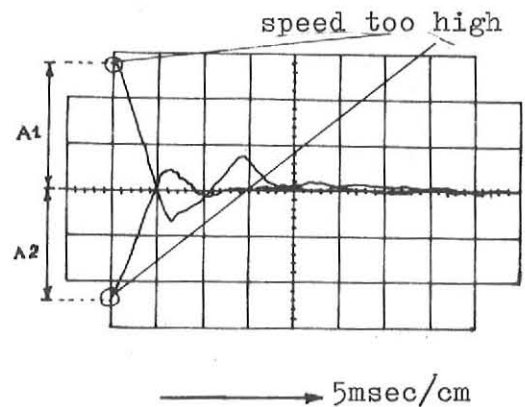

Fig 7-11
- 14) By adjusting VX1 and VX2 in turn, a correct place position loop will be obtained. The slope will be adjusted by turning VX2 to the left means steeper, and to the right means shallower. By VX1 the overshoot is adjusted. To the left means damping (less overshoot), to the right means less damping. The figures 7-11/7-12 show the correct adjustment for respectively one and two steps, from the areas mentioned in point 13.